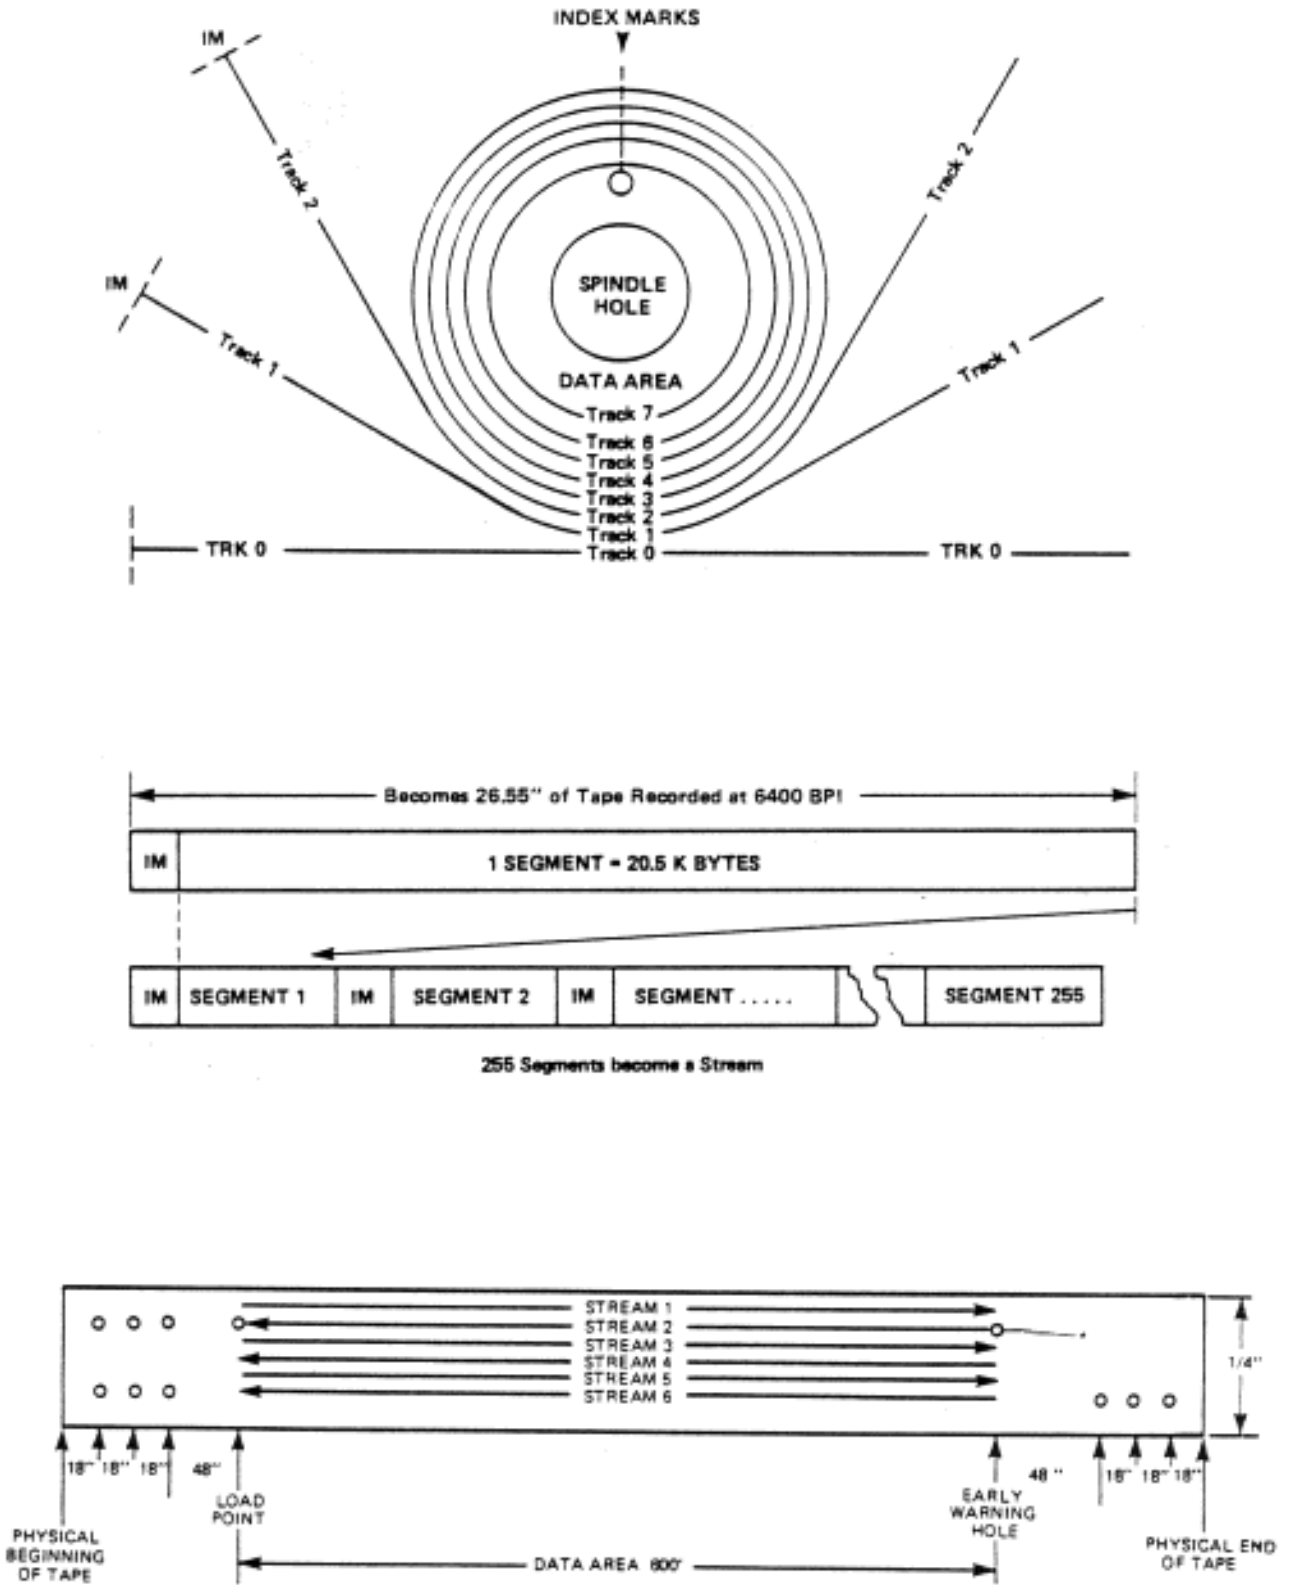

Figure 1-2. The Evolution of FloppyTape
- **Segment** - a fixed length of tape that emulates a floppy disk track. Each segment is 26.55 inches, and has the capacity (unformatted) of 20.5 kilobytes. See Figure 1-2.
- **Stream** - one of six physical bit serial tracks recorded on tape. Each stream contains 255 segments (0-254). See Figure 1-2.
- **Index Mark** - a portion of a stream in which the oxide is saturated in one direction. An Index Mark is used for the logical separation of segments. See Figure 1-2.
- **Upstream** - a position on tape that is between the present location and the logical End of Stream (EOS). See Figure 1-2.
- **Downstream** - a position on tape that is between the present location and the logical Beginning of Stream (BOS). See Figure 1-2.